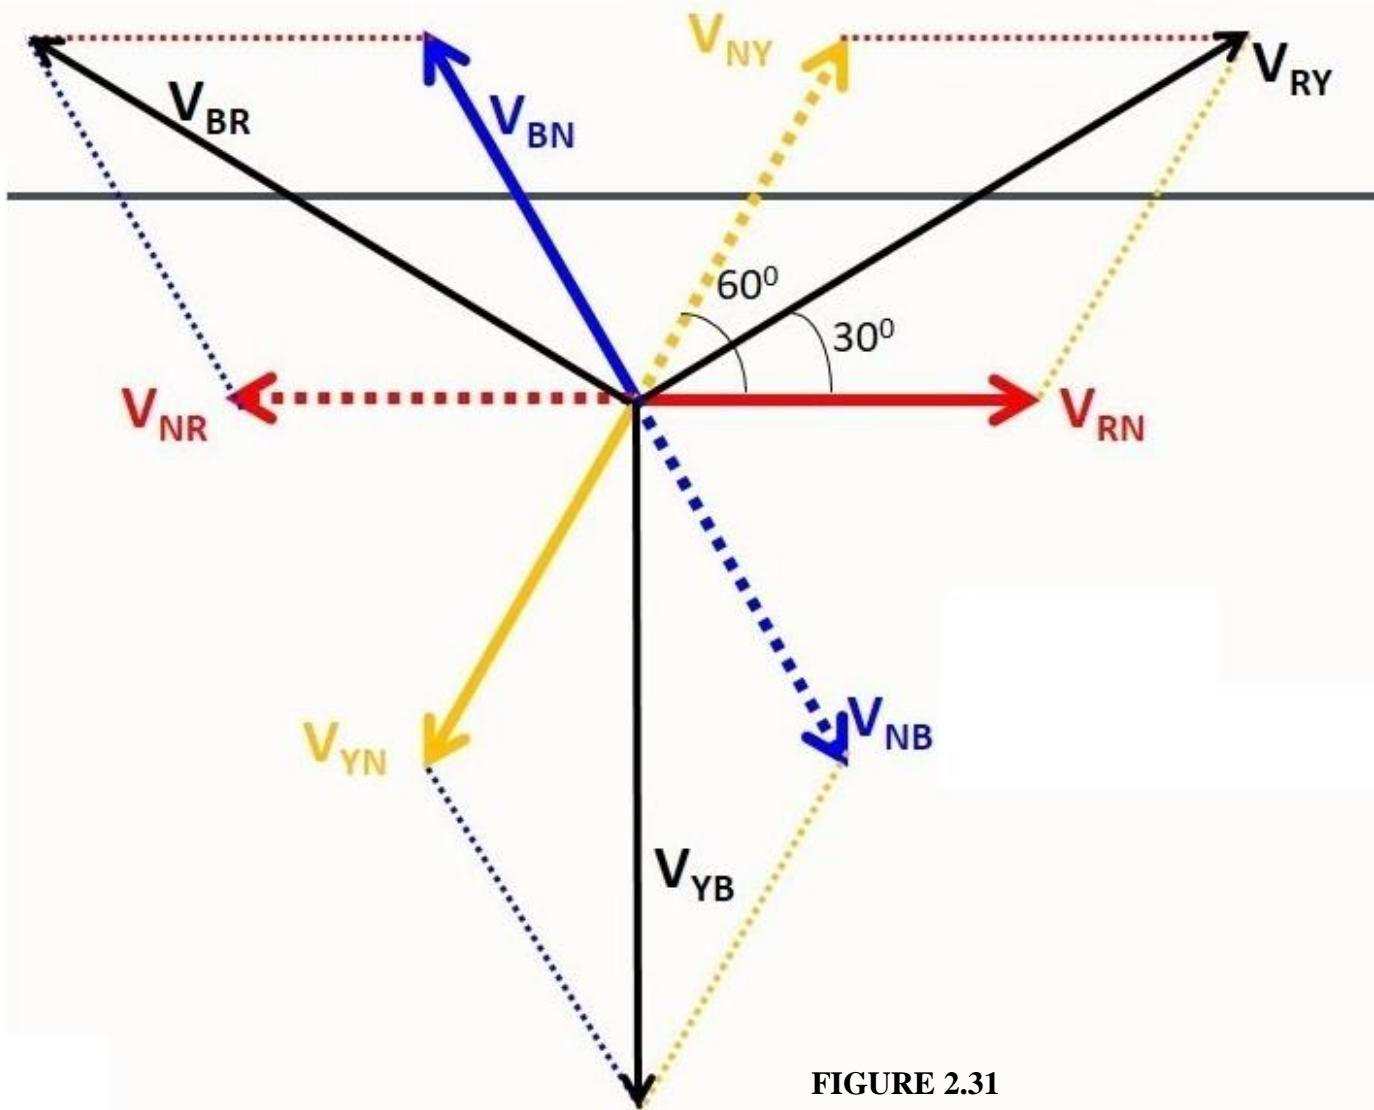

FIGURE 2.31
- Referring to Figs. 2.31 and 2.32, it is seen that: